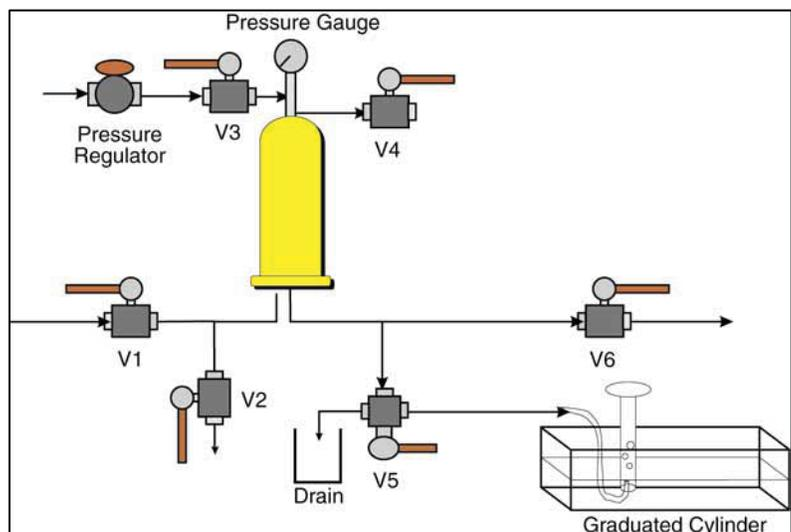

Figure 1 - Forward Flow Integrity Test (Manual Method)
#### (Manual Testing - Figure 1)
- A. Configure the system as shown in Figure 1. Connect a pressure regulator to a sterile compressed air source (Do Not Use CO2) capable of delivering a minimum of 0.7 bar (10 psig) more than the required test pressure. FFIT test pressure for LifeASSURE PDA series filter is 2.8 bar (40 psig). Connect a length of clear flexible tubing (3-6 mm I.D.) to the outlet port of drain valve V5. Fill the reservoir to a depth of approximately 5 cm (2 inches) with sterile water. Fill a graduated cylinder or burette of an appropriate size with sterile water, invert and submerge the open end 1.2 cm (0.5 inch) under the sterile water.